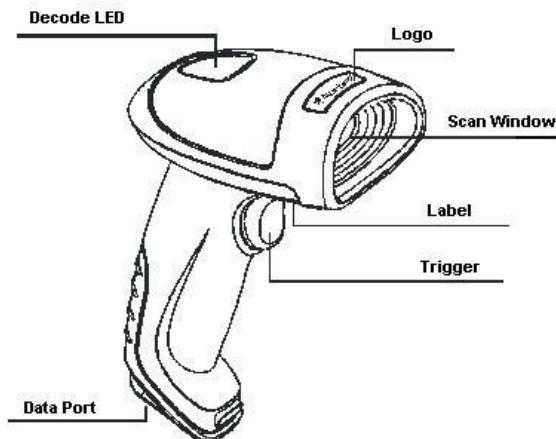

Fig. 1-1
1. Plug the RJ45 connector into the data port (see Fig.1-1) on the scanner.
- ❖ Press and hold the trigger (see Fig.1-1). Then the scanner will project a red aiming beam.